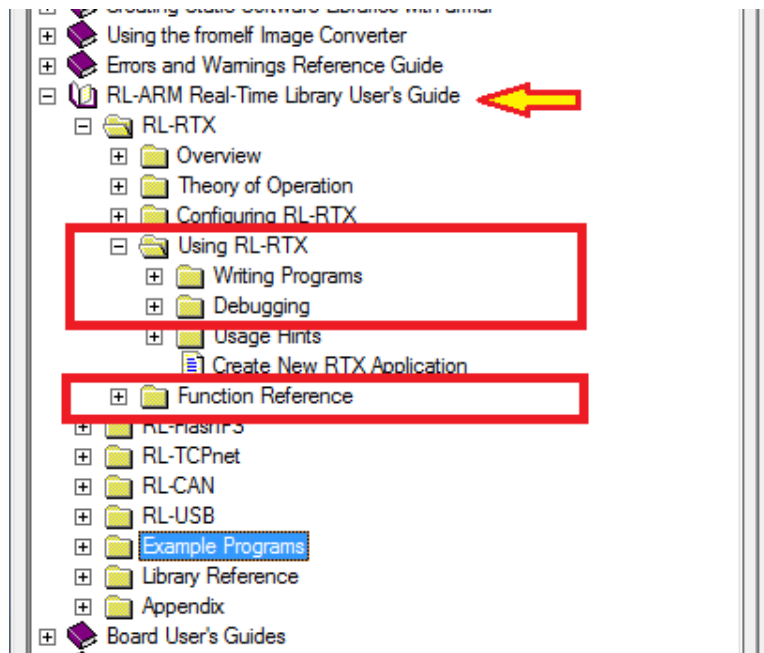

Figure 1.12: Keil IDE: RL-RTLX Manual
3. Start a PuTTY terminal and make sure you have the correct configuration as shown in Figures 1.12(a) and 1.12(b).
The manual of the RL-RTLX is accessible through the Keil MDK-ARM Help (see Figure 1.12). The highlighted sections are highly recommended to read through.